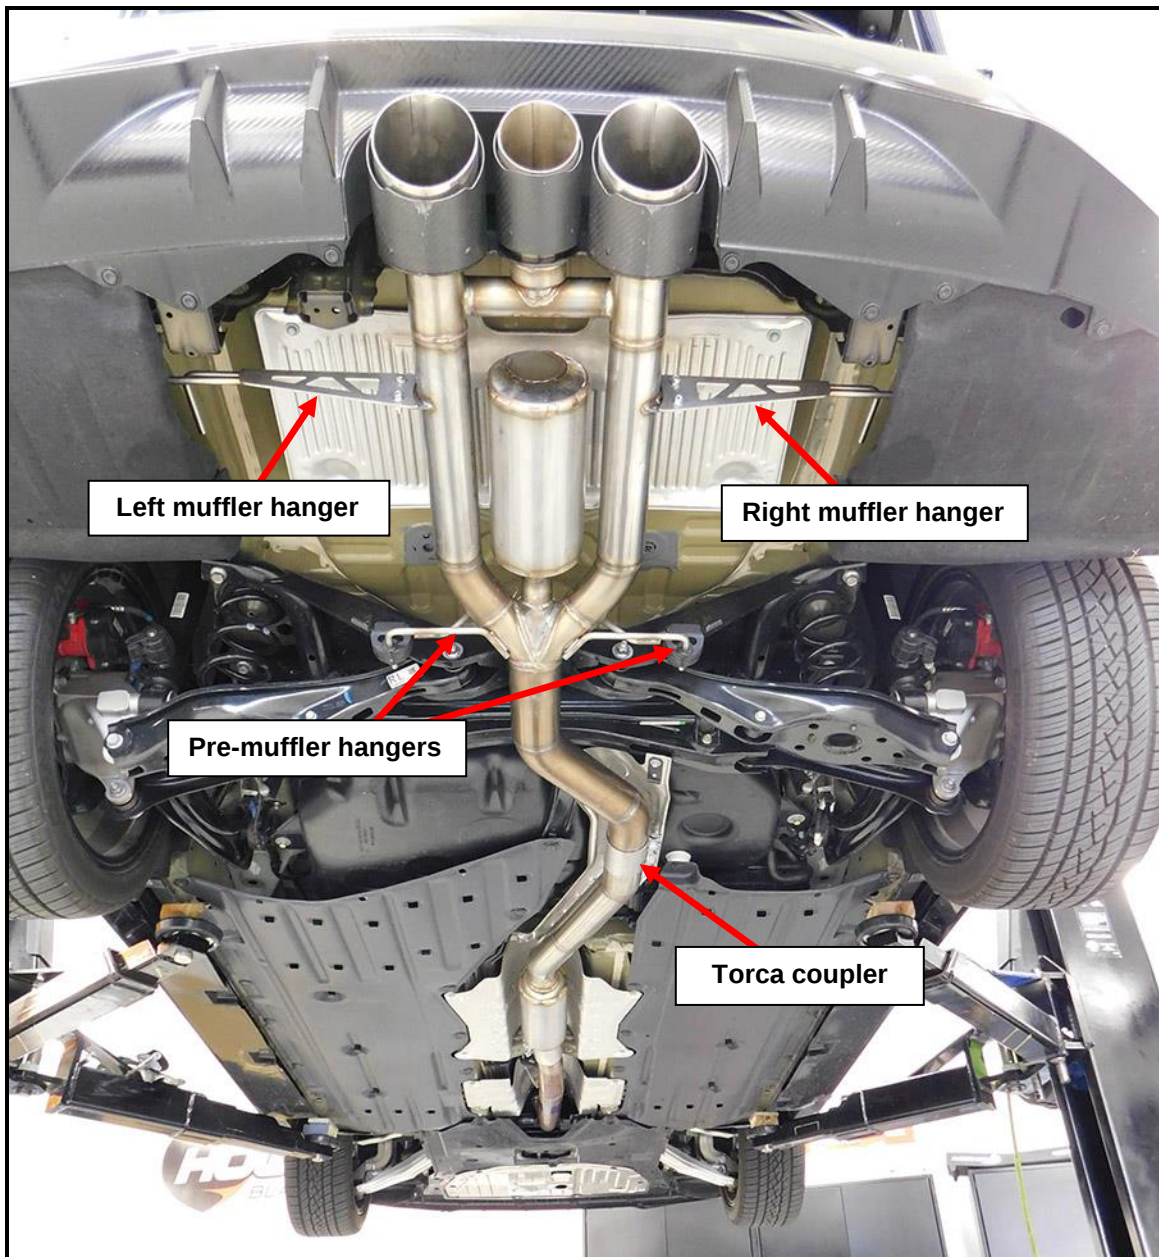

Figure 4
6. Install the Supplied Torca Coupler on to the outlet pipe of the resonator with the bolts to the right and the nuts facing down (**Figure 4**).
7. Spray the (x2) exhaust hanger isolators located before the mufflers on the rear sub frame with WD-40®. Position the muffler assembly into the car and slide the pre-muffler hangers into the isolators (**Figure 4**). Position the muffler inlet pipe to the resonator pipe. Slide the Torca coupler on to the muffler pipe with a 50-50 split between the resonator pipe and the muffler pipe. Position the Torca coupler to approximately 3 o'clock and tighten to allow for adjustment (**Figure 4**).